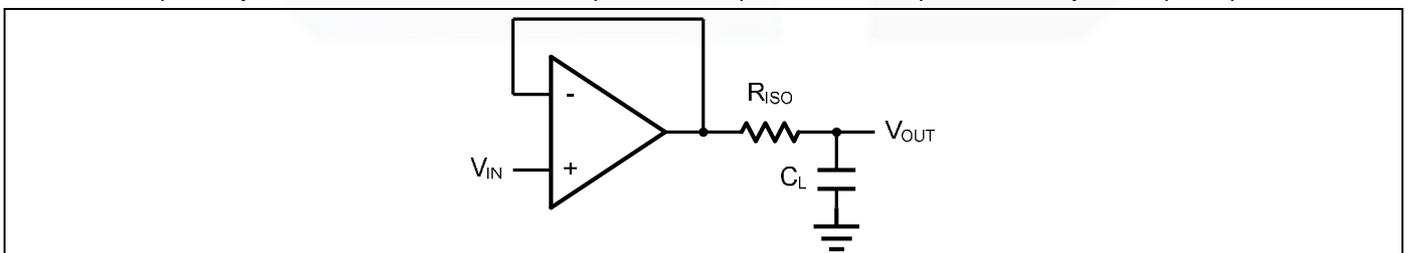
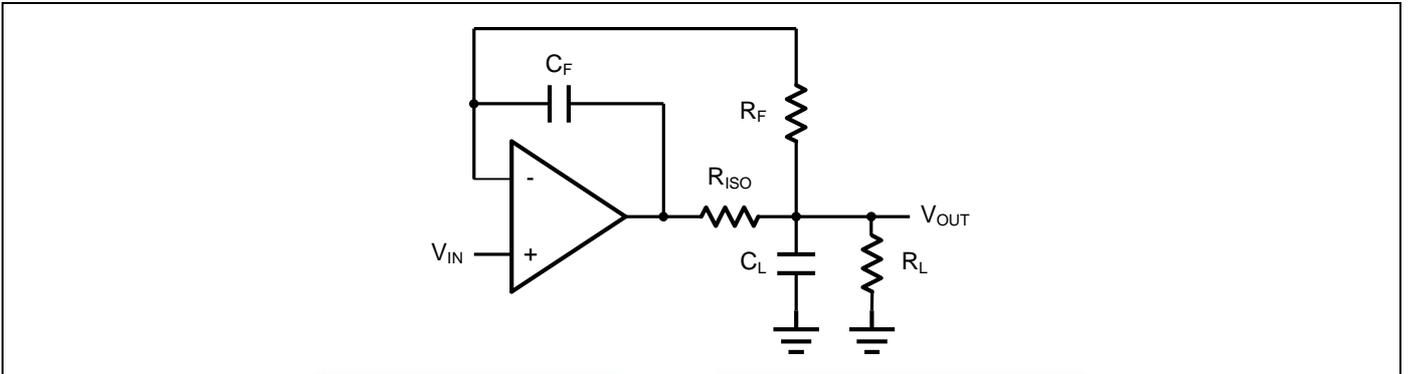

Figure 2. Indirectly Driving a Capacitive Load Using Isolation Resistor
Figure 3. Indirectly Driving a Capacitive Load with DC Accuracy
The GS8632C is optimized for bandwidth and speed, not for driving capacitive loads. Output capacitance will create a pole in the amplifier's feedback path, leading to excessive peaking and potential oscillation. If dealing with load capacitance is a requirement of the application, the two strategies to consider are (1) using a small resistor in series with the amplifier's output and the load capacitance and (2) reducing the bandwidth of the amplifier's feedback loop by increasing the overall noise gain. Figure 2. shows a unity gain follower using the series resistor strategy. The resistor isolates the output from the capacitance and, more importantly, creates a zero in the feedback path that compensates for the pole created by the output capacitance.
The circuit in Figure 3 is an improvement to the one in Figure 2.  $R_F$  provides the DC accuracy by feed-forward the  $V_{IN}$  to  $R_L$ .  $C_F$  and  $R_{ISO}$  serve to counteract the loss of phase margin by feeding the high frequency component of the output signal back to the